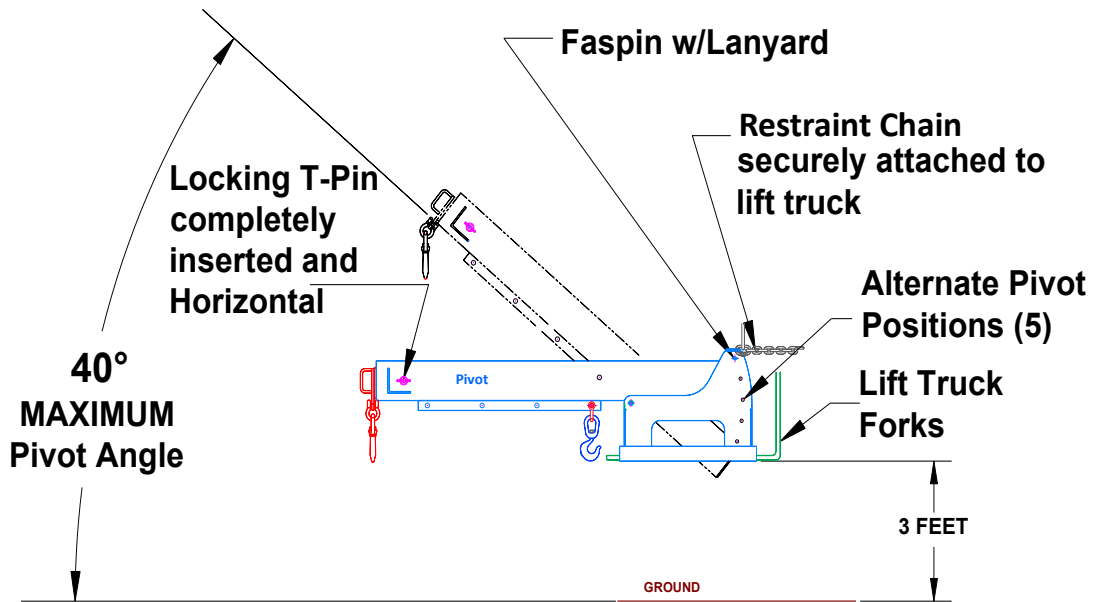

Figure 9
- Adjust the load position, aligning the load's center of gravity equal distance between both hook centers, symmetric loading (see figure 9)